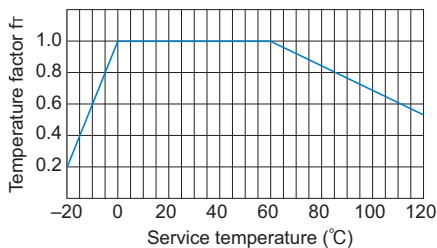

Fig.2 Temperature Factor
If the temperature of the change nut exceeds the normal temperature range, the seizure resistance of the nut and the strength of the material will decrease. Therefore, it is necessary to multiply the dynamic permissible torque (T) and the dynamic permissible thrust (F) by the corresponding temperature factor indicated in Fig.2.
- $f_T$  : Temperature factor (see Fig.2)
- F : Dynamic permissible thrust (N)
- $P_F$  : Axial load (N)